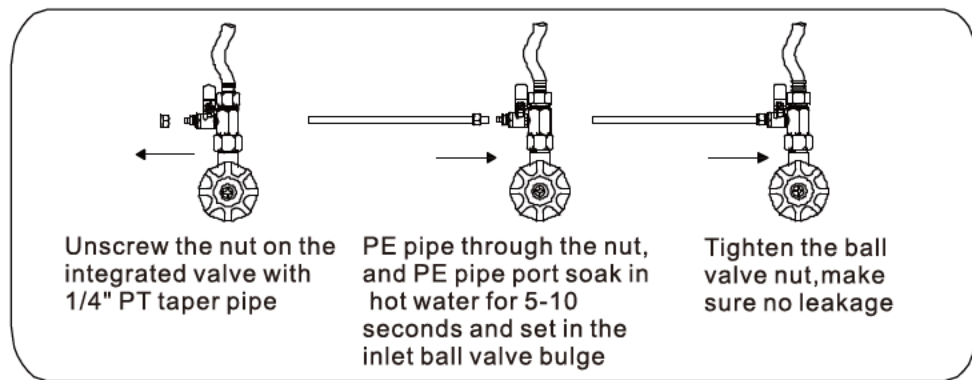

figure 2
- c. Then connect PE pipe to the integrated valve with 1/4" PT taper pipe with the method (in Figure 2). Finally insert the other end of the PE pipe into the water inlet of this machine, and block with blue card to avoid leakage.